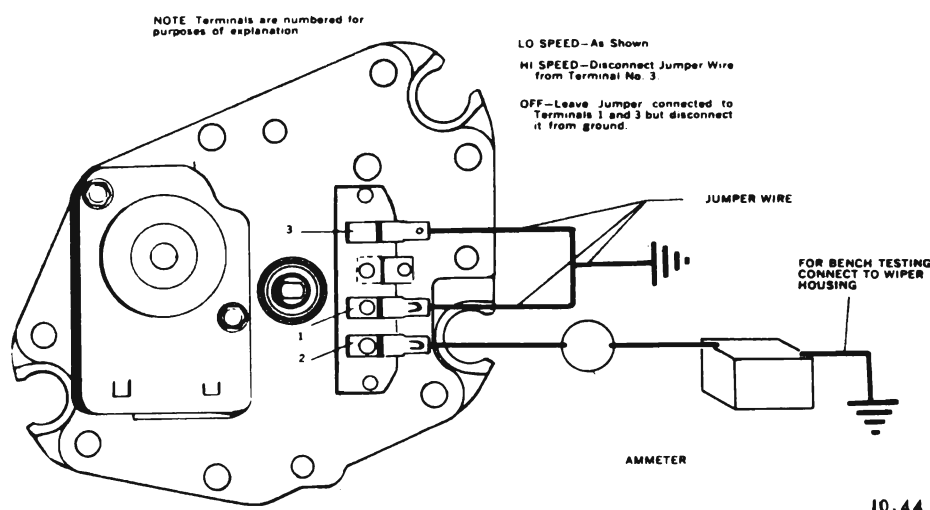

Figure 10-17 - Connections to Operate Wiper Motor
1. Install replacement parts as required. See figure 10-17.
(b) With ignition switch ON, check for 12 volts at harness terminal that connects to number 2 terminal. See figure 10-17.
(c) To determine if instrument panel switch or car wiring are at fault, disconnect harness from wiper motor and try operating wiper as shown in figure 10-17. If wiper fails to operate, remove body parts as required, disconnect transmission from wiper crank arm and recheck wiper operation. If wiper still fails to perform correctly, remove wiper from car and check wiper according to "Trouble Chart No. 2 - Wiper Out of Car."
(b) Disconnect wiring harness from wiper motor and try operating wiper independent of instrument panel switch as shown in figure 10-17. If wiper operates correctly, independent of the instrument panel switch, (i.e. shuts off correctly with crank arm in park position) refer to "Trouble Chart No. 1 - Wiper in Car" for possible trouble location.
It is assumed that in many cases there is no information available to the repairman about the original wiper complaint. It is necessary, therefore, that wiper operation be checked according to the instructions shown in figure 10-17.